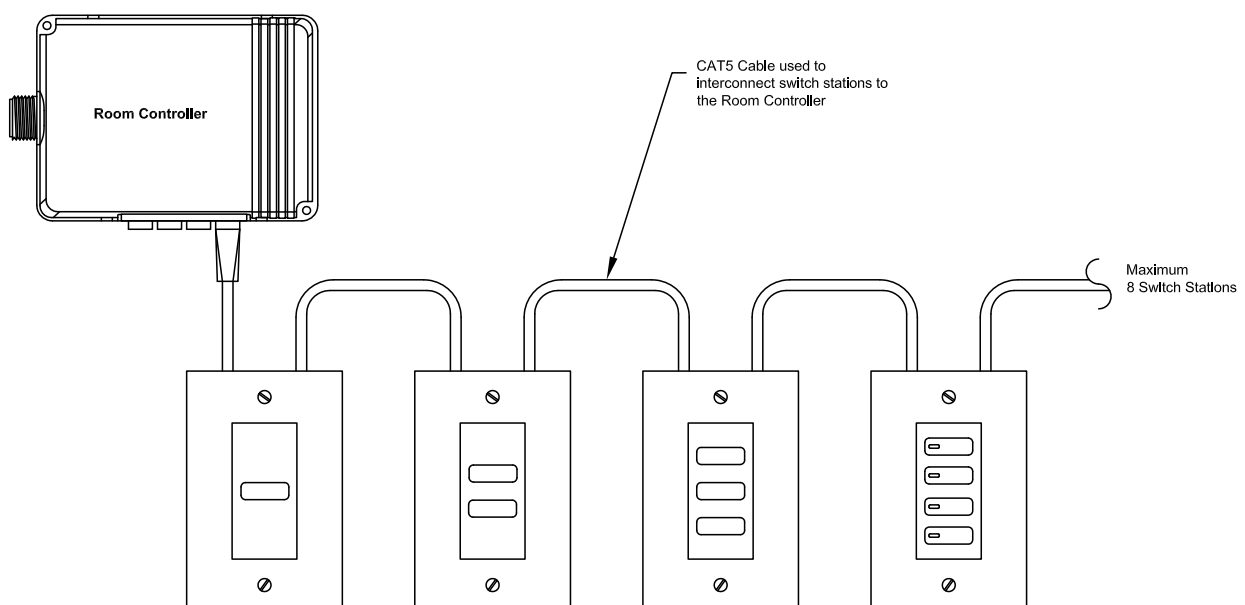

Figure 3: NX Switches connected to Room Controller *SmartPORT*
2. Plug the CAT5 cable into any available SmartPORT™ on the NX™ Room Controller (See Figure 3). Verify solid snap-in connection.